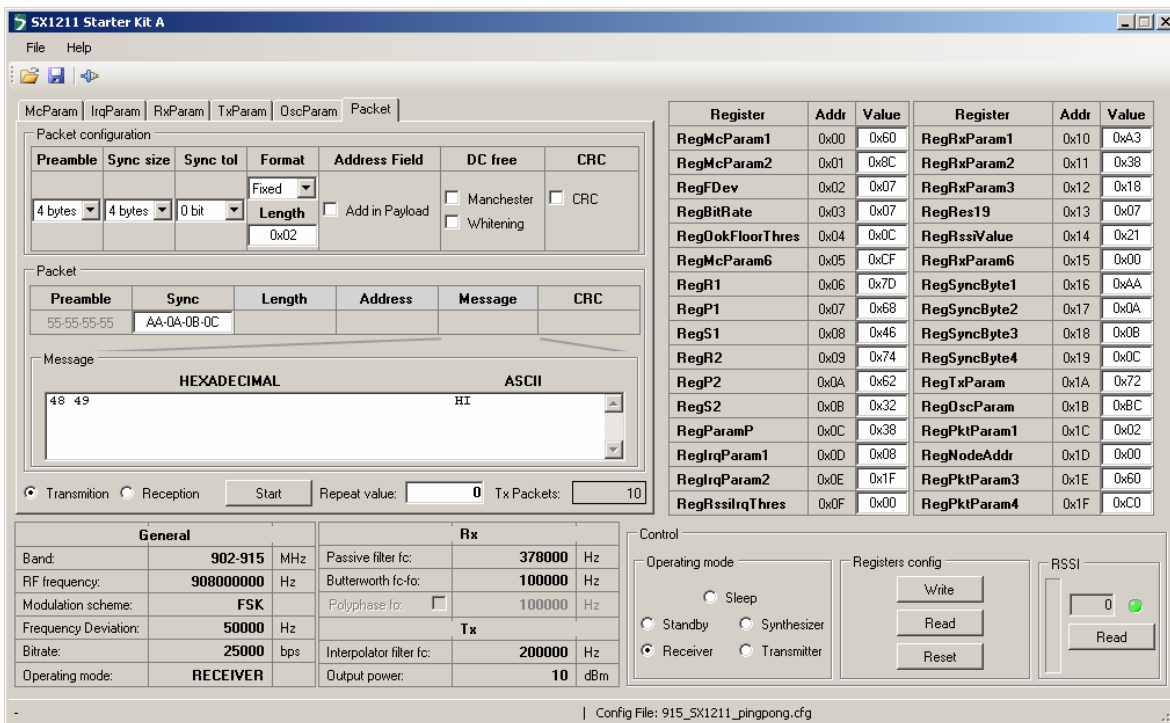

Figure 7. The SX1211SKA User Interface Ready to Transmit the Demonstration Packet
| Figure 7. The SX1211SKA User Interface Ready to Transmit the Demonstration Packet..... | 10 |
2. The packet test display is preconfigured in transmit mode with a valid payload (see *Figure 7*). The 'Repeat value' may be edited according to the number of packets desired to be transmitted (leave equal to zero for continuous transmission).